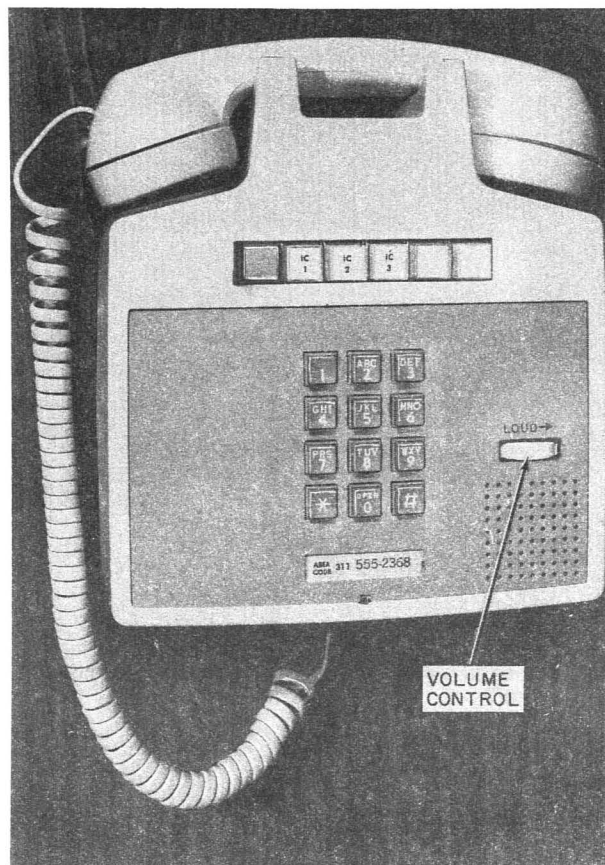

Fig. 1—2853AM Telephone Set
1.01 This section contains information on the 853AM (rotary dial) and 2853AM (TOUCH-TONE* telephone dial) equipped telephone sets (Fig. 1, 2, 3, and 4).
2.03 These sets are equipped with a transducer and potentiometer assembly for tone and voice signaling. The volume level is adjusted by a control knob located on the front of the set, just to the right of the dial (Fig. 1).